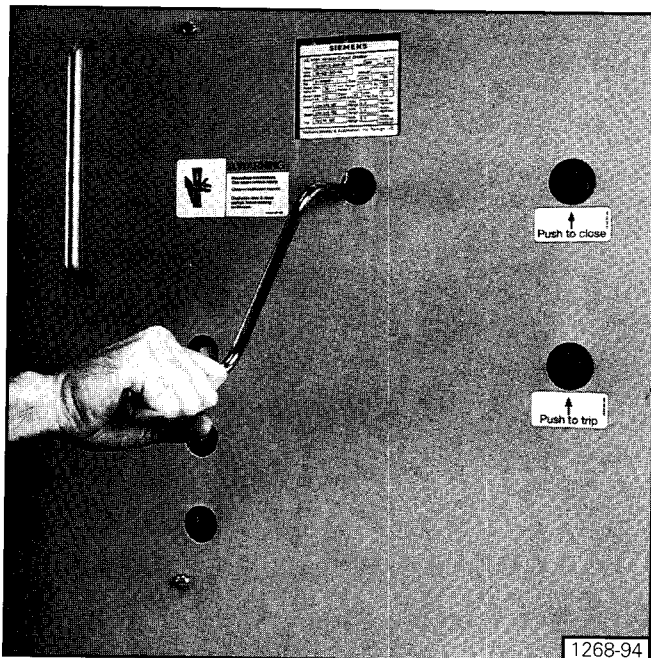

Figure 4. Manual Charging of Closing Springs
1. Insert the manual spring charging crank into the manual charge handle socket as shown in **Figure 4**. Turn the crank clockwise (about 45 revolutions) until the spring condition indicator shows the closing spring is Charged.